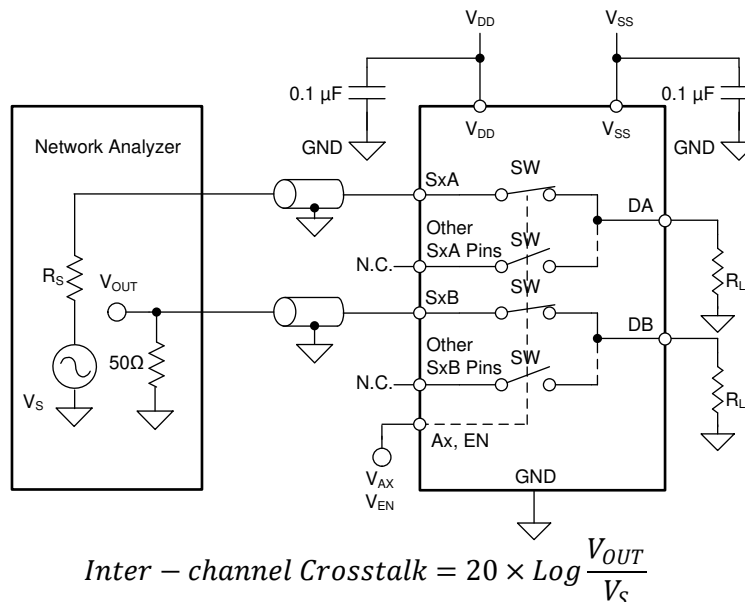

Figure 8-14. Inter-channel Crosstalk Measurement Setup
2. Inter-channel crosstalk ($X_{TALK(INTER)}$): the voltage at the source pin (S_x) of an on-switch input, when a 1- V_{RMS} signal is applied at the source pin of an on-switch input in a different channel, as shown in Figure 8-14. Inter-channel crosstalk applies only to the TMUX7309F device.